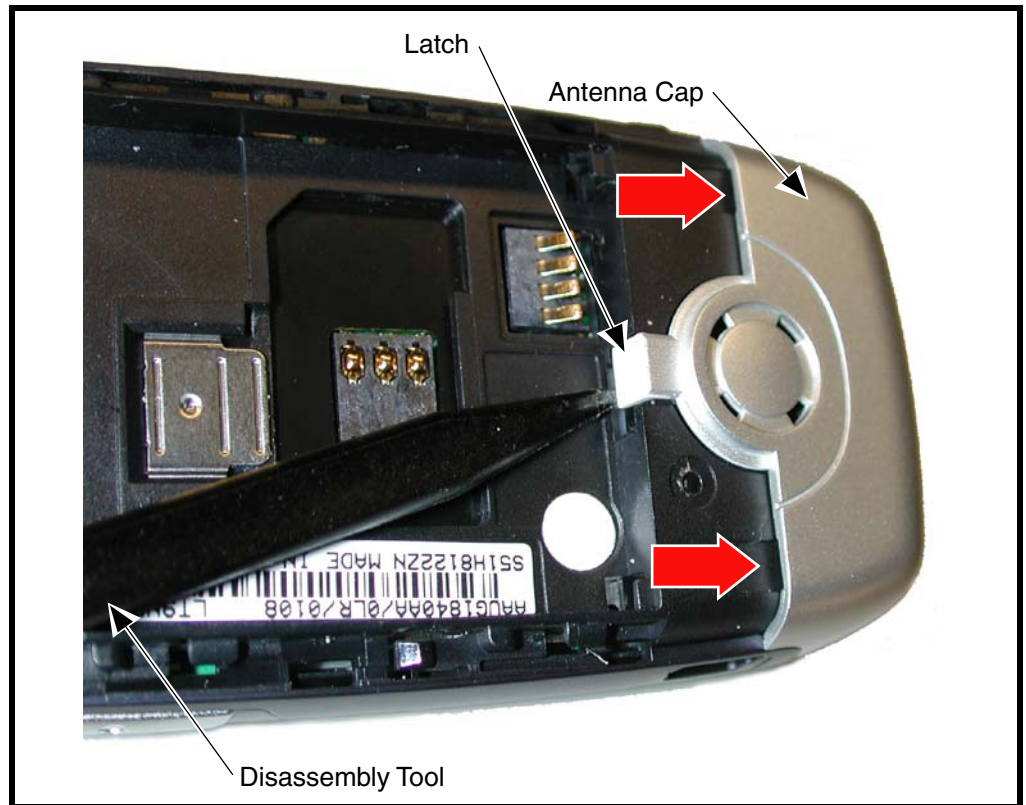

Figure 4. Removing the Antenna Cap
3. Insert the disassembly tool in the slots on each side of the antenna cap as shown by the red arrows in Figure 4. Carefully release the snaps on each side of the phone under the antenna cap.